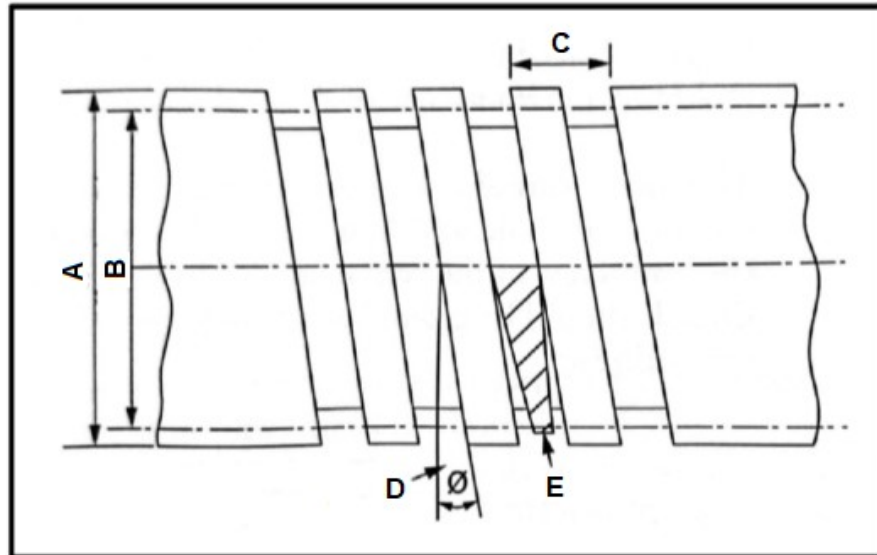

FIGURE 10.2
10.2 FIGURE 10.2 below shows a square thread.